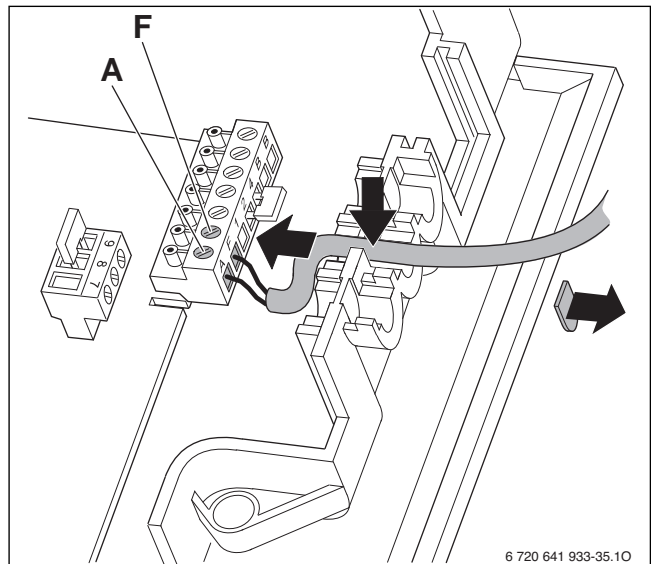

Fig. 44 Electrical wiring outdoor temperature sensor
- ▶ Connect cable of the outdoor temperature sensor according to Fig. 44.